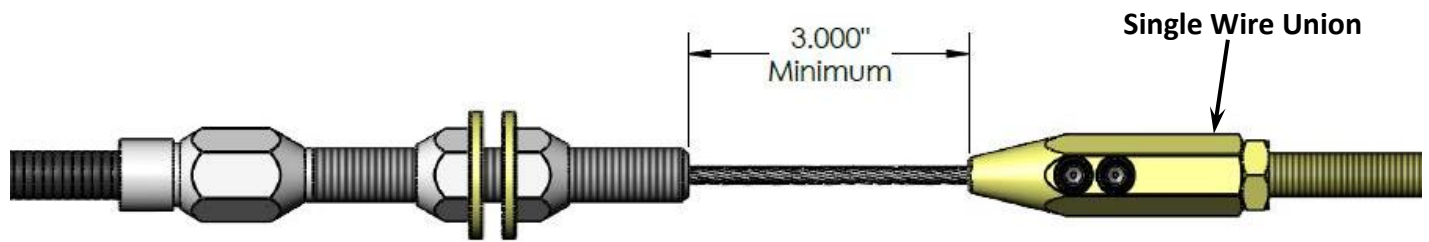

Figure 4 – Inner Wire Minimum Clearance Length
7. With the inner wire extending past the cable adjuster, mark the wire to be cut. The wire will need at least 3.000" of total wire travel to allow for adequate movement of the park brake lever at the caliper Refer to Figure 4 below for reference. **REMEMBER: Allow an additional 1.375" of wire length for insertion into the single wire union.**